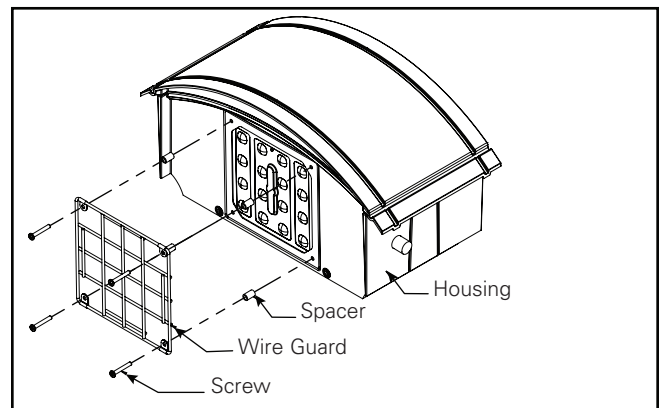

Figure 4.
1. Remove the four screws which secure the light square and trim ring to the fixture. (Figure 4.)